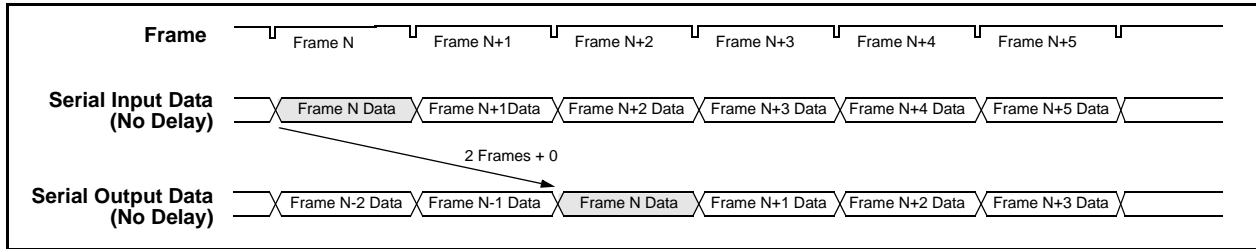

Figure 21 - Data Throughput Delay when Input and Output Channel Delay are Disabled for Input Ch0 Switched to Output Ch0
By default, when the input channel delay and output channel delay are set to zero, the data throughput delay (T) is: $T = 2 \text{ frames} + (m-n)$. Figure 21 shows the throughput delay when the input Ch0 is switched to the output Ch0.